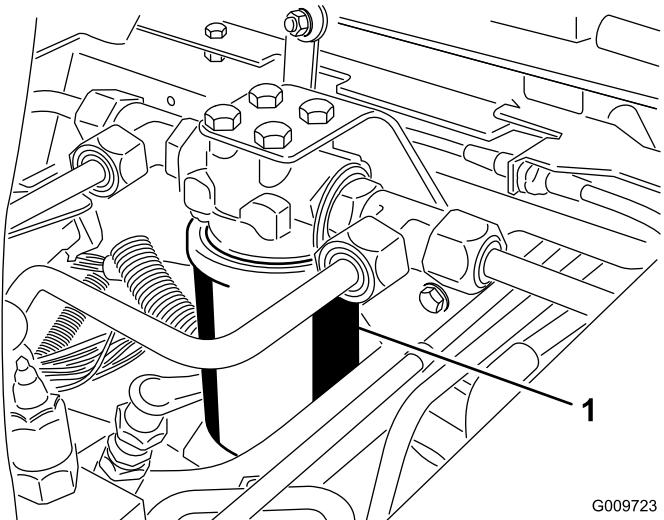
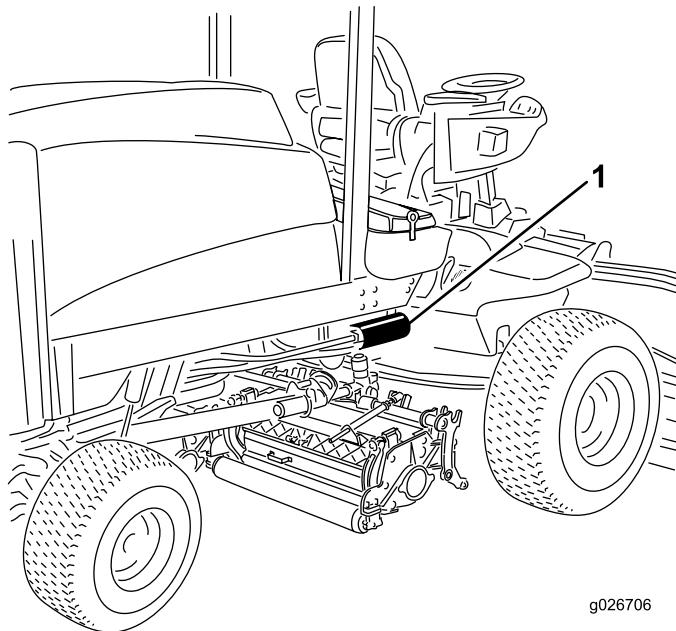

Figure 97
Figure 98
2. Clean the area around the filter mounting area. Place a drain pan under the filter and remove the filter (Figure 97 and Figure 98).